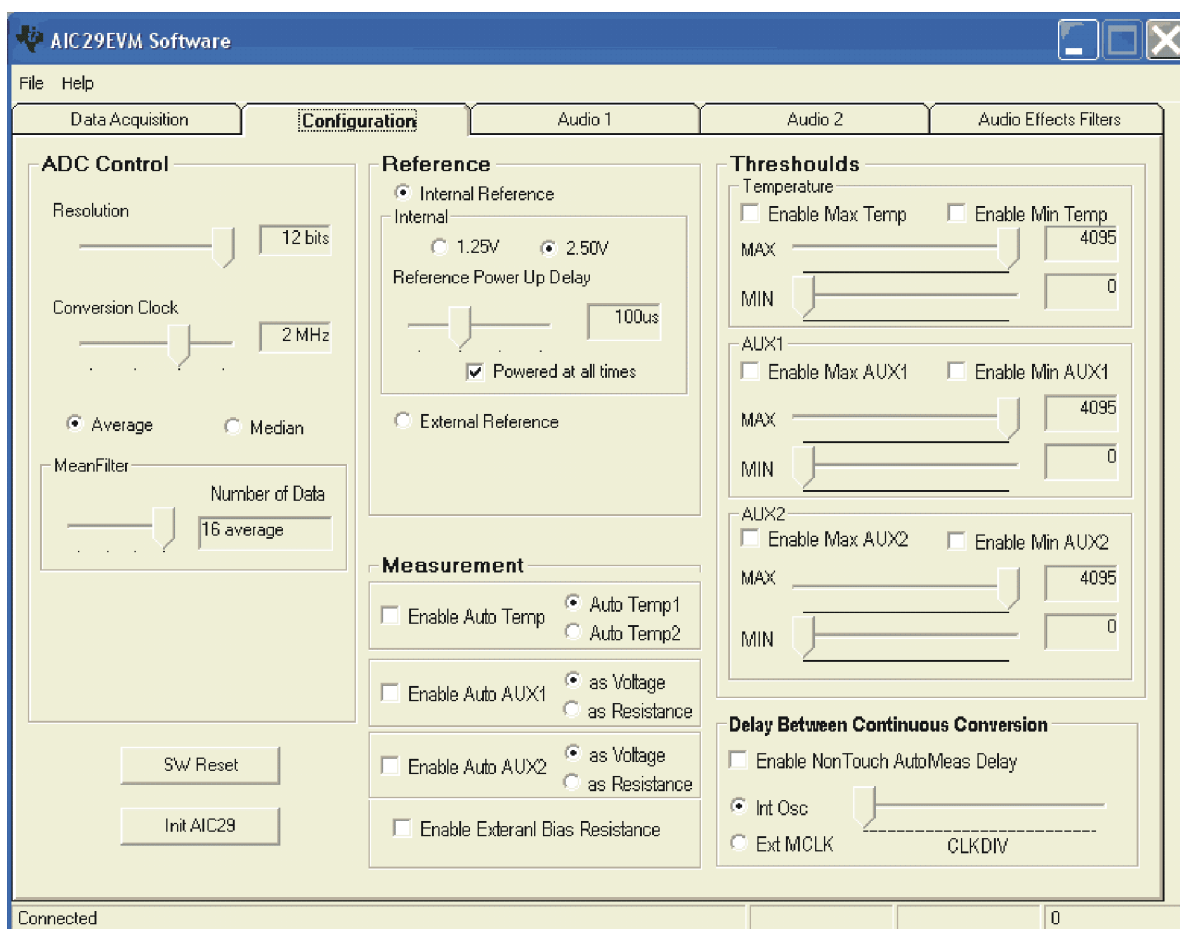

Figure 4. Configuration Screen
This screen accesses the configurable settings for the TLV320AIC29 analog-to-digital converter (ADC) and reference as shown in Figure 4.
- **Average/Median** — There are two ways to reduce noise effect to the ADC result. One is averaging, where 4, 8, or 16 readings are averaged; another option is to find the median value among 5, 9, or 15 readings. The default is the average mode, as shown in Figure 4. Median mode can be selected with the corresponding button.